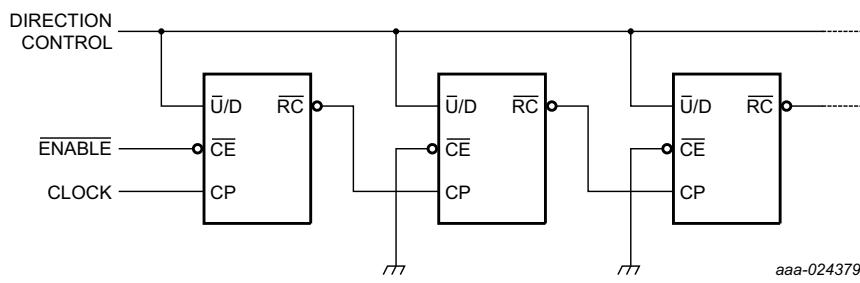
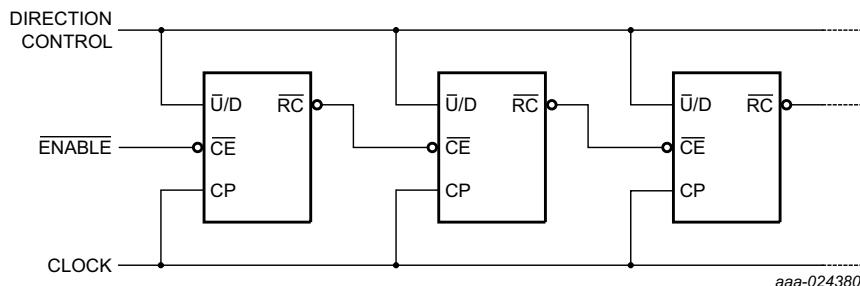
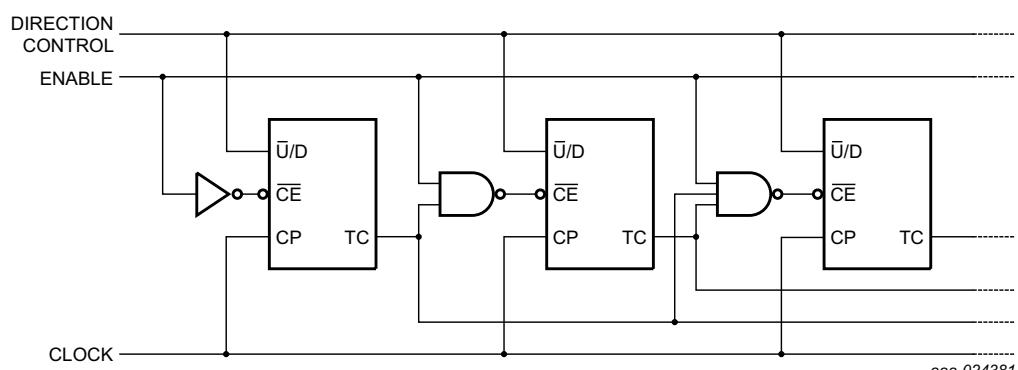

Fig 5. N-stage ripple counter using ripple clock
Fig 6. Synchronous n-stage counter using ripple carry/borrow
Fig 7. Synchronous n-stage counter with parallel gated carry/borrow
The 74HC191 is an asynchronously presettable 4-bit binary up/down counter. It contains four master/slave flip-flops with internal gating and steering logic to provide asynchronous preset and synchronous count-up and count-down operation. Asynchronous parallel load capability permits the counter to be preset to any desired value. Information present on the parallel data inputs ( $D_0$  to  $D_3$ ) is loaded into the counter and appears on the outputs when the parallel load (PL) input is LOW. This operation overrides the counting function. Counting is inhibited by a HIGH level on the count enable ( $CE$ ) input. When  $CE$  is LOW internal state changes are initiated synchronously by the LOW-to-HIGH transition of the clock input. The up/down ( $U/D$ ) input signal determines the direction of counting as indicated in the function table. The  $CE$  input may go LOW when the clock is in either state, however, the LOW-to-HIGH  $CE$  transition must occur only when the clock is HIGH. Also, the  $U/D$  input should be changed only when either  $CE$  or CP is HIGH. Overflow/underflow indications are provided by two types of outputs, the terminal count (TC) and ripple clock ( $\bar{RC}$ ). The TC output is normally LOW and goes HIGH when a circuit reaches zero in the count-down mode or reaches '15' in the count-up-mode. The TC output will remain HIGH until a state change occurs, either by counting or presetting, or until  $U/D$  is changed. Do not use the TC output as a clock signal because it is subject to decoding spikes. The TC signal is used internally to enable the  $\bar{RC}$  output. When TC is HIGH and  $CE$  is LOW, the  $\bar{RC}$  output follows the clock pulse (CP). This feature simplifies the design of multistage counters as shown in Figure 5 and Figure 6. In Figure 5, each  $\bar{RC}$  output is used as the clock input to the next higher stage. It is only necessary to inhibit the first stage to prevent counting in all stages, since a HIGH on  $CE$  inhibits the  $\bar{RC}$  output pulse. The timing skew between state changes in the first and last stages is represented by the cumulative delay of the clock as it ripples through the preceding stages. This can be a disadvantage of this configuration in some applications. Figure 6 shows a method of causing state changes to occur simultaneously in all stages. The  $\bar{RC}$  outputs propagate the carry/borrow signals in ripple fashion and all clock inputs are driven in parallel. In this configuration the duration of the clock LOW state must be long enough to allow the negative-going edge of the carry/borrow signal to ripple through to the last stage before the clock goes HIGH. Since the  $\bar{RC}$  output of any package goes HIGH shortly after its CP input goes HIGH there is no such restriction on the HIGH-state duration of the clock. In Figure 7, the configuration shown avoids ripple delays and their associated restrictions. Combining the TC signals from all the preceding stages forms the  $CE$  input for a given stage. An enable must be included in each carry gate in order to inhibit counting. The TC output of a given stage is not affected by its own  $CE$  signal therefore the simple inhibit scheme of Figure 5 and Figure 6 does not apply. Inputs include clamp diodes. This enables the use of current limiting resistors to interface inputs to voltages in excess of  $V_{CC}$ .